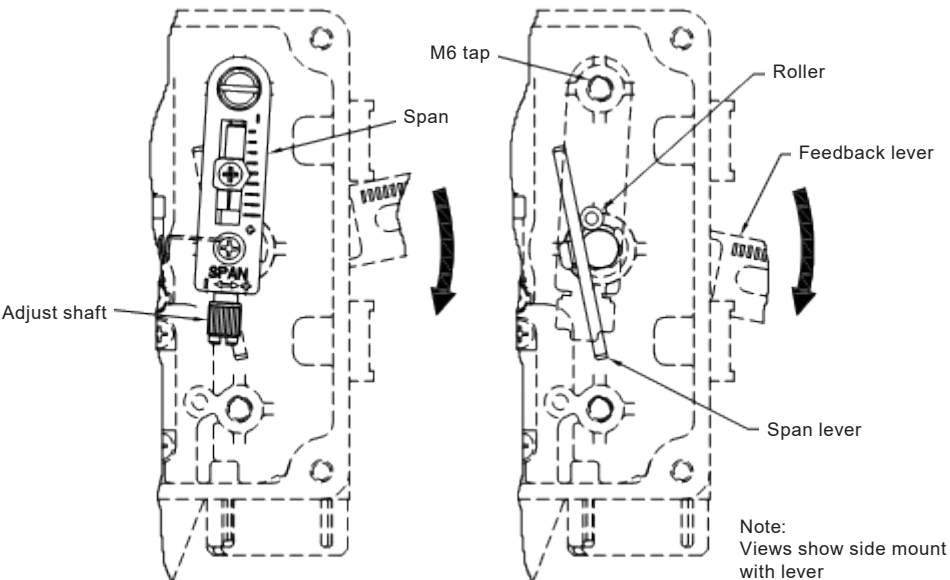

Fig. 15 Span Installation (side = DA, central = RA)
1. Side mount - If the actuator axis moves down when input signal is increased, assemble the "Span" to upper M6 Tap hole like the below Fig. 15.(DA)
Central mount - If the actuator axis moves up when input signal is increased, assemble the "Span" to upper M6 Tap hole like the above Fig. 15 (RA)